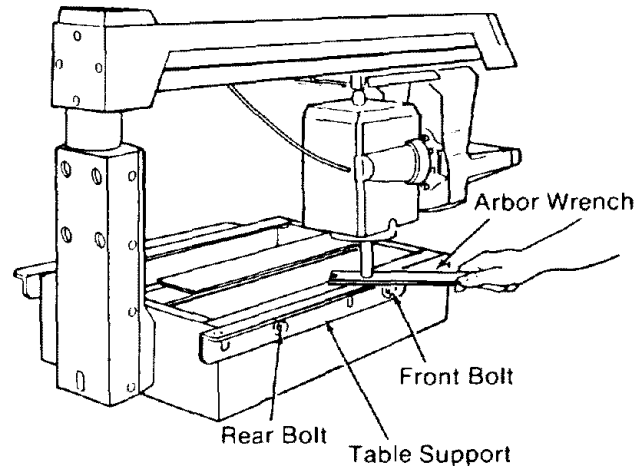

Fig. 62
14. Mark the point on the *table support* under the center of the *arbor shaft*. (Figure 62)
15. Place the *arbor wrench* over this point. (Figure 62)